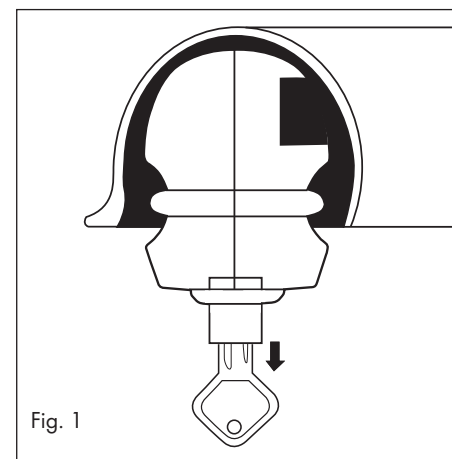

Fig. 1
3. Pull the lock cylinder out of the trailer coupling lock (see Fig. 1).